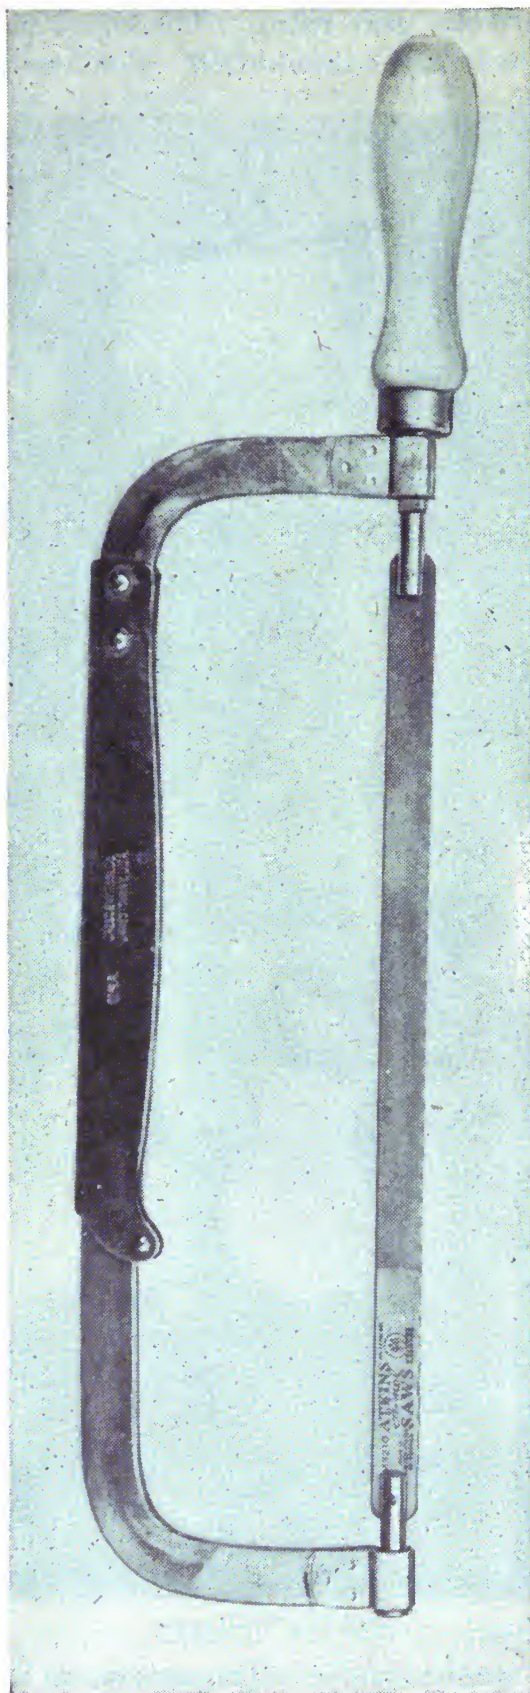

FIGURE 15.—Hacksaw.
*c.* The hacksaw is used for cutting hard stock such as brass, bakelite, mild steel, etc. The blade is about  $\frac{1}{2}$  inch wide and may vary in length from 8 to 12 inches. The number of teeth is greater than in wood saws. The blade is held in a frame which allows it to be tightly stretched. (See fig. 15.) Because of the nature of the material to be cut by the hacksaw, the blade is hardened and tempered and can easily be broken by a side strain.